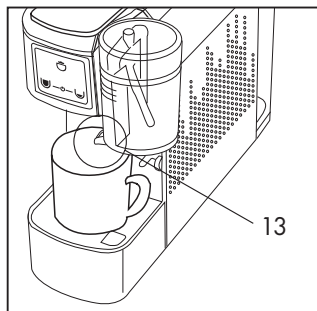

Fig. 21
- Close the support (11) and place the cup directly on the grid.
Check that the hopper of the milk beaker (13) is oriented in the cup. **(Fig. 21)**